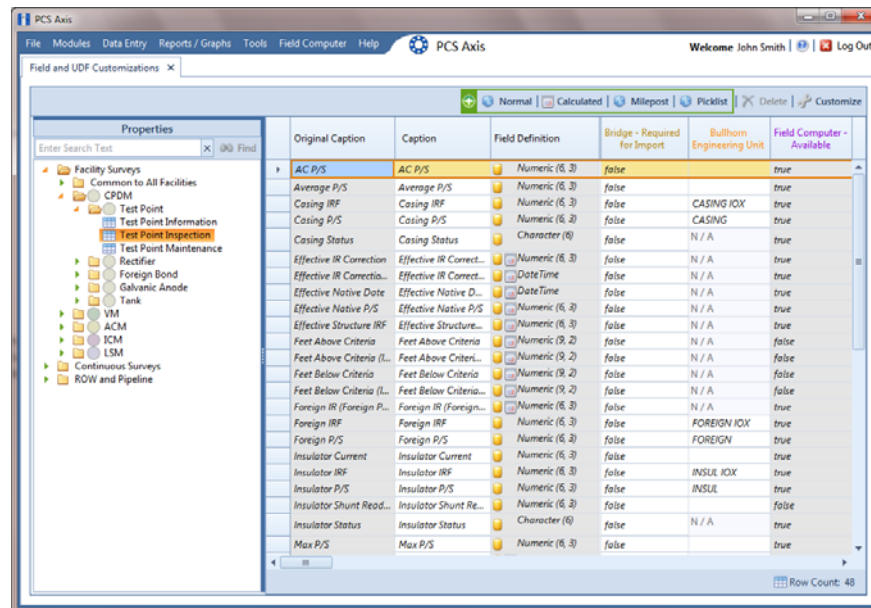

Figure 2-28. Field and UDF Customizations
- 3 Select an item in the *Properties* panel that includes the data entry grid you want to add a UDF. For example, double-click **Facility Surveys > CPDM > Test Point > Test Point Inspection** to display a grid with fields and property settings related to the *Test Point Inspection* data entry grid (Figure 2-28).
- 8 Click a toggle button  to open a field category, such as *Test Point Inspection Fields* shown in Figure 2-28, page 59. Double-click a field in the list of fields to add it in the *Expression* field. Define the UDF using the operator and functions buttons.